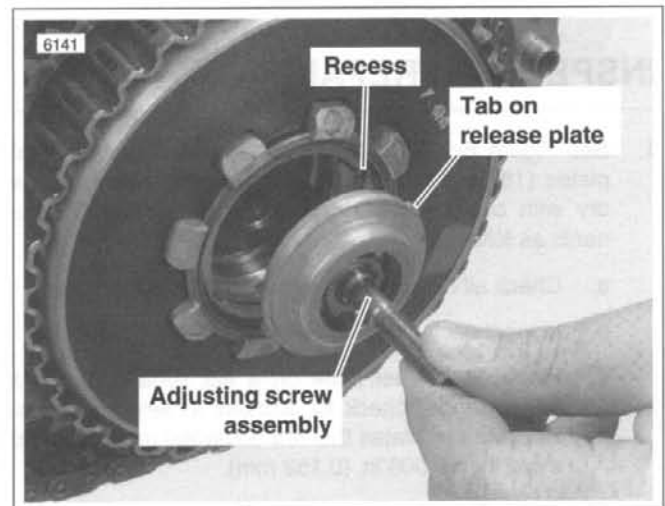
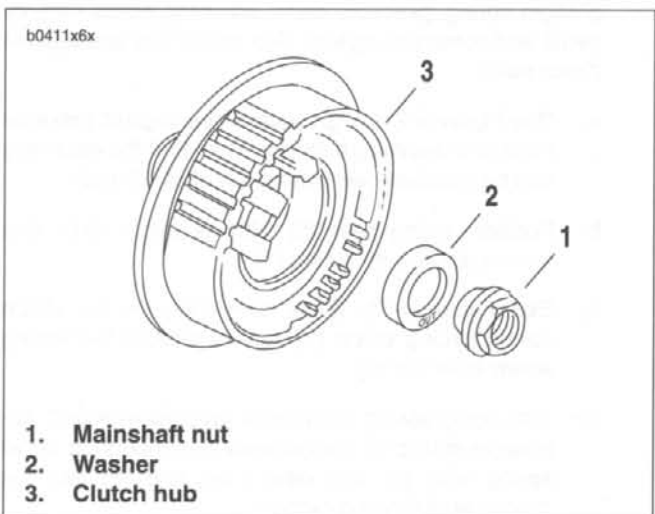

Figure 6-18. Aligning Tabs
Figure 6-24. Mainshaft Nut and Washer
4. Remove mainshaft nut (21) and washer (22).
- a. See Figure 6-18. Align two tabs on perimeter of release plate with corresponding recesses in pressure plate.
See Figure 6-24. Washer (2) must be installed with the word "out" facing the mainshaft nut (1) or transmission may be damaged.
- b. Place washer (2) on mainshaft with the word "out" facing away from clutch hub (3).
- c. Install nut (1) (**left-hand threads**). Tighten to 70-80 ft-lbs (94.9-108.5 Nm).